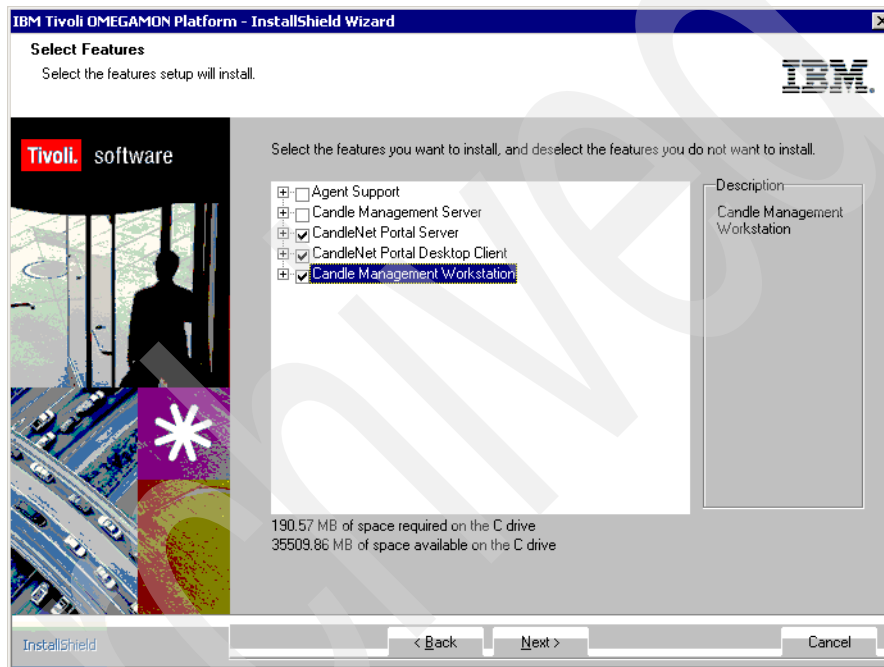

Figure 3-38 Product component selection
3. From the product features shown in Figure 3-38, select the following products: